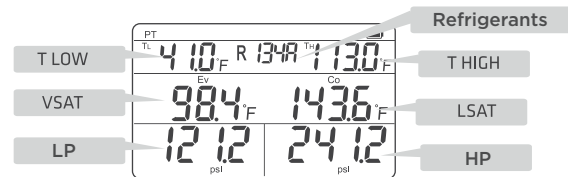

Fig. 1 P/T mode with saturation temperatures
1. Once the gas is selected, the screen displays in real time the values of the LP and HP pressures, the corresponding saturation temperatures VSAT and LSAT (figure 1) as well as the probe temperatures TLow and THigh